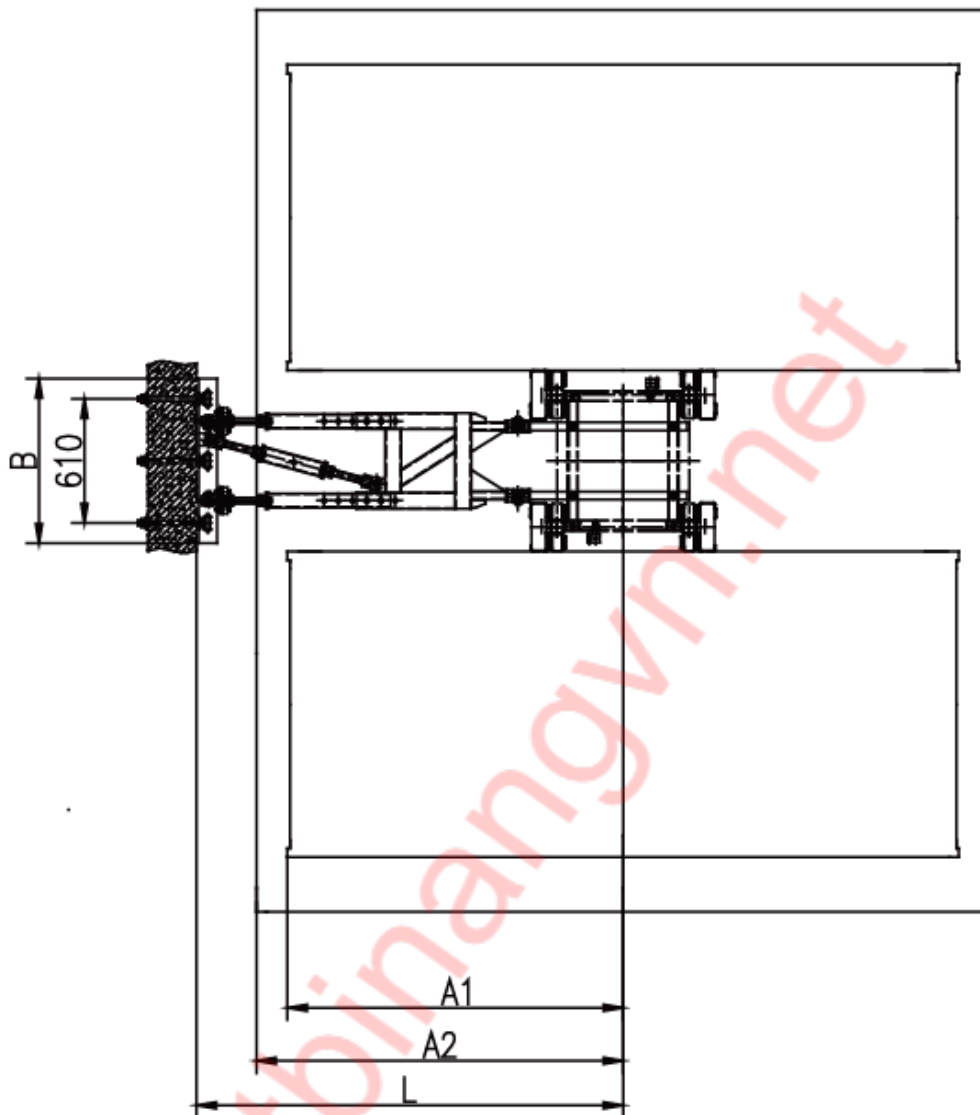

Figure 3.2-5 Schematic Diagram for V-type Mast Tie
2). Replace part of components, can be converted to VA type attached wall use, the original attachment device small coupling frame, rear coupling rod can be common, attached wall distance $L=1700\sim 2000\text{mm}$, wall connection width $B=610\text{mm}$, as shown in Figure 3.2-5,